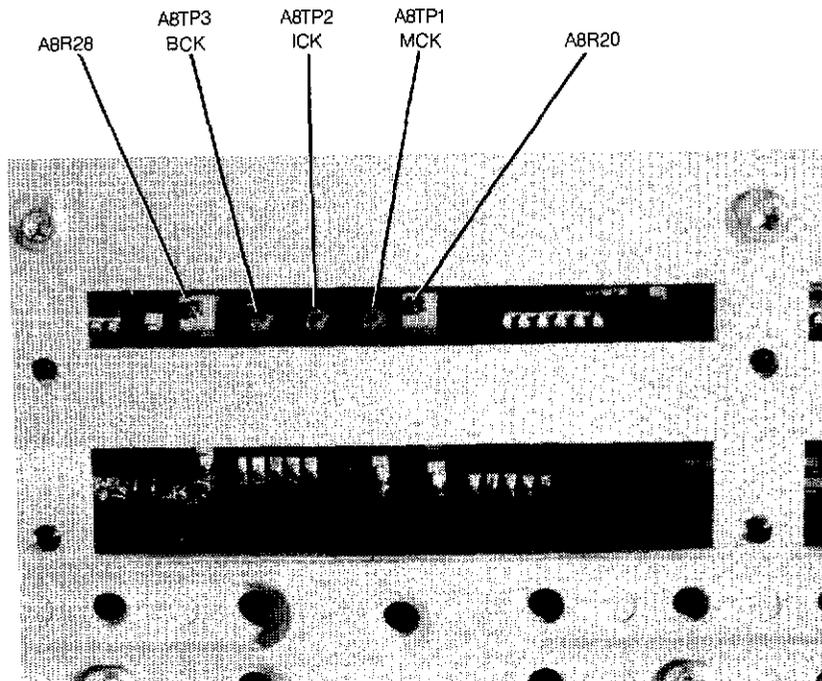

Figure 4-15. State Trigger Board Adjustment Locations
7. Unscrew and remove the black insulating sleeve from the front of the probes to allow probe tips to fit through the side rail and into the test points. Connect the 10:1 divider probes to State Trigger Board test points as follows (refer to figure 4-15):
9. Adjust A8R20 (figure 4-15) until leading edge of ICK (A8TP2) is delayed 42 to 43 ns from leading edge of MCK (A8TP1).